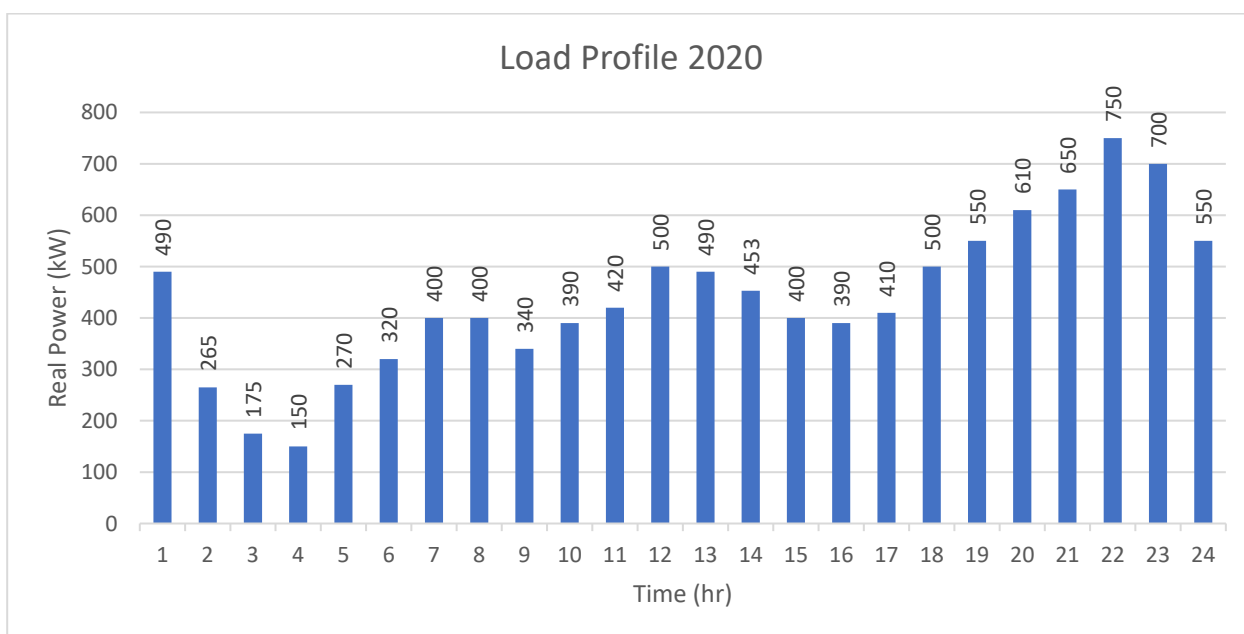

Figure 3- BLV microgrid load profile [Year 2020]
Figure 3 shows the BLV microgrid load profile (maximum load) for Year 2020 (Phase 1). It can be observed that the peak load of the microgrid is 750kW, which is about 75% of each Diesel Generator (DG) nominal rating. It is also seen that the peak load occurs in the evening time.